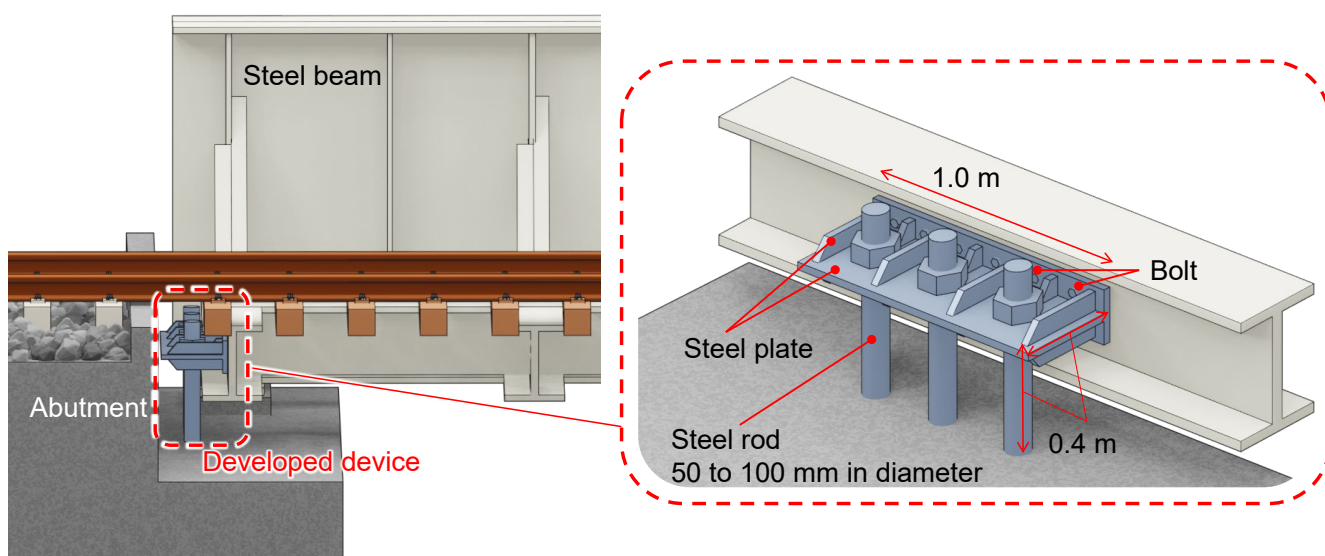

Fig. 1 Device to prevent bridge collapse with vibration control mechanism
RTRI Developed an effective seismic retrofit measure for steel bridges in a narrow space, a device to prevent collapses of bridges with vibration control mechanism (Fig.1). This device prevents collapses of bridges in a large earthquake and reduces displacement of the bridge beam. This device can be mounted to locations where there is only narrow space under the bridge or around the bridge column.
- Steel rods with diameters of 50 to 100 mm are connected together by steel plate and bolted to the bridge beam (Fig. 1).
- As its dimensions are 1.0 m long in the direction perpendicular to rail, 0.4 m in the rail direction and 0.4 m high, it can be mounted to the beam support with narrow space (Fig. 1).